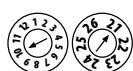

Figure 1
**Date of production:** It is on the product (Figure 1). The arrows indicate the month and year of production respectively.